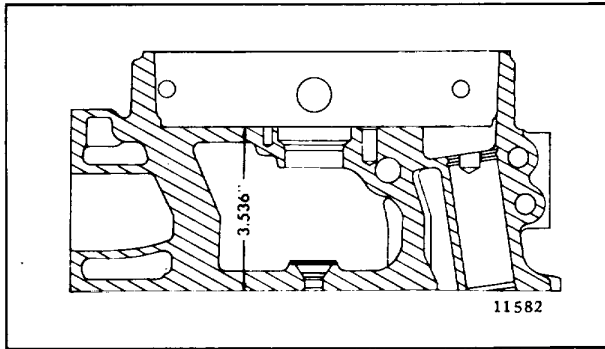

Fig. 11 - Minimum Distance Between Top and Bottom Faces of Cylinder Head
c. If the head is to be refaced, remove the injector tubes prior to machining. Do not remove more than .020" (total) of metal from the fire deck of any cylinder head. The distance from the top deck to the bottom (fire deck) of the cylinder head must not be less than 3.536" (Fig. 11). Stamp the amount of stock removed on the face of the fire deck near the outer edge of the head, in an area not used as a sealing surface.